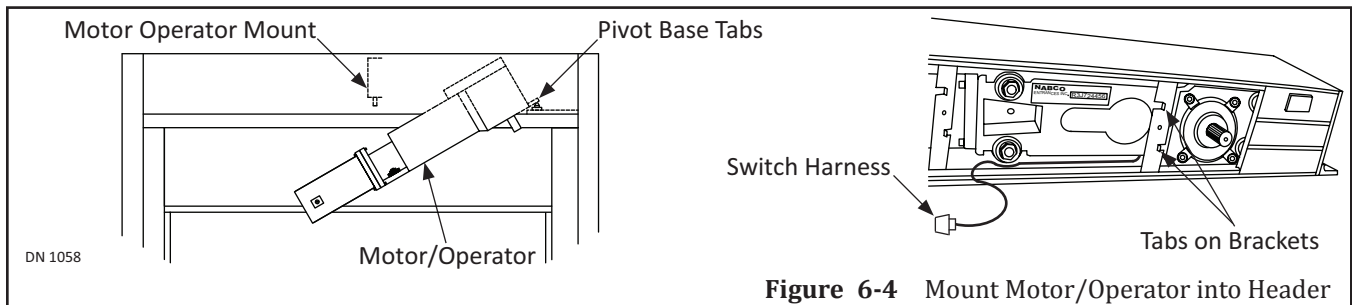

Figure 6-4 Mount Motor/Operator into Header
5. Lift the rear of the Motor Operator up onto (2) studs extending downward. Please see Figure 6-4.
6. Secure the Motor/Operator with (2) 3/8-16 inch Hex Jam Nuts and (2) 7/16 x 1 inch Washers.